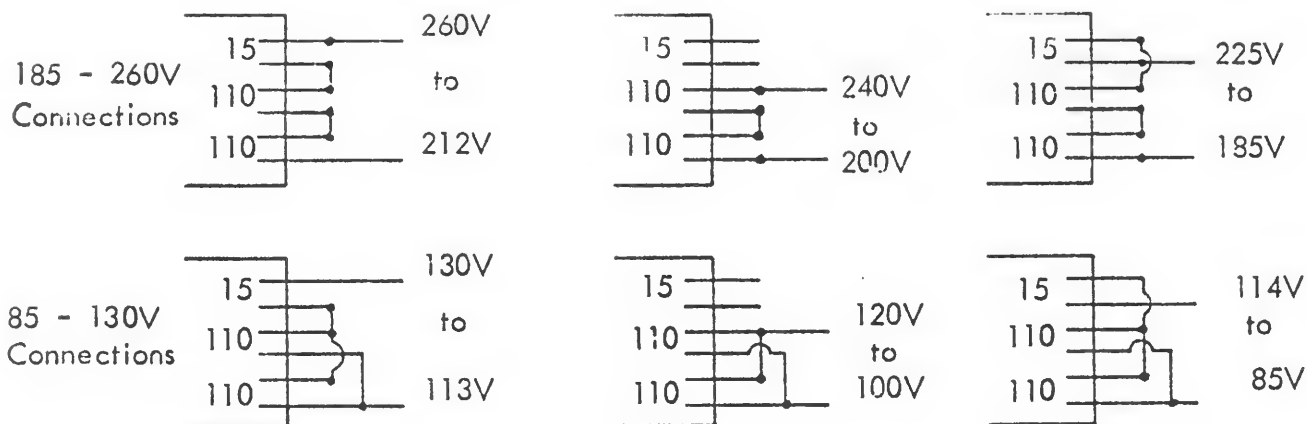

Figure 2. Transformer Connections
- 5.11 The AC input to the supply is taken via S1A and S1B and a 5A Delay fuse to the two transformers T1 and T2 whose primary windings are connected in parallel across the supply. Interconnection of the voltage tapings on the primary windings give a wide range of input voltages, see Figure 2.